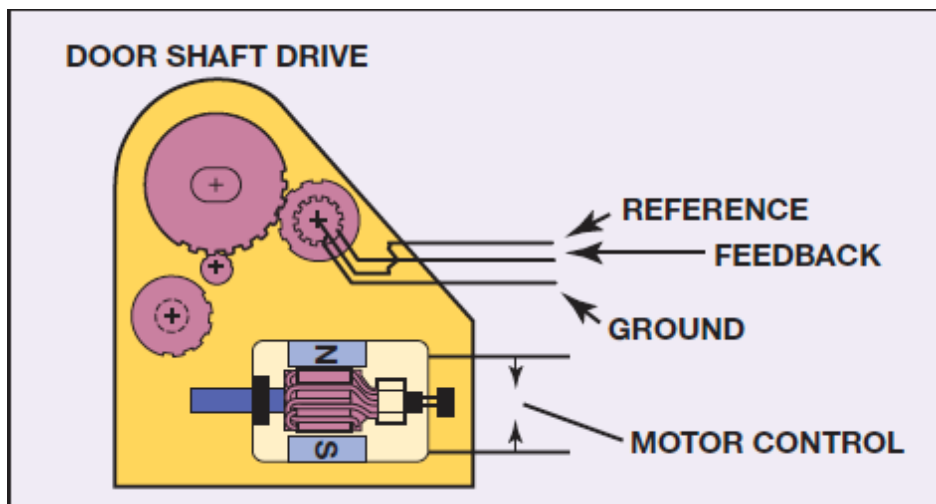

Figure 14. A five wire actuator with feedback potentiometer.
- A five-wire actuator uses two wires to power the motor (power and ground) and three wires for a potentiometer that is used to signal the HVAC control module of the position of the motor. Figure 14.